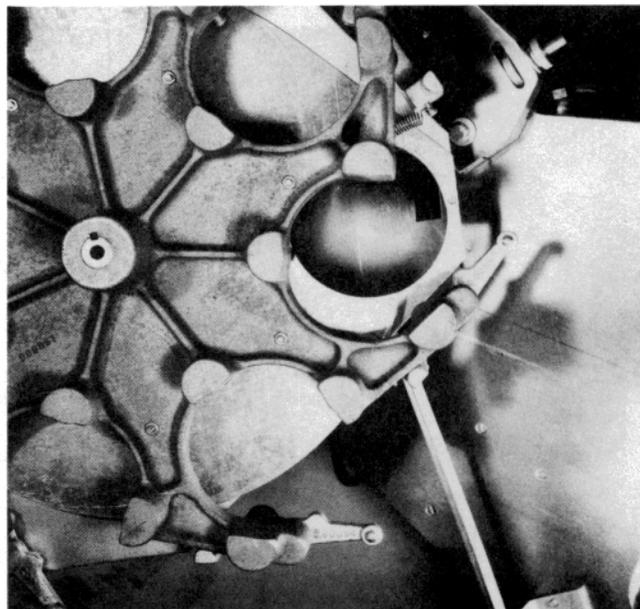

Figure 91 – Magazine
- 9.1 When looking down on the empty magazine the target holes in the magazine the magazine ramp and the magazine floor plate should line up as shown in Figure 91 when trap is in the uncocked position. If the holes are not lined up in this manner the magazine gear and the magazine drive gear are out of phase. The phase is correctly set by the following procedure: